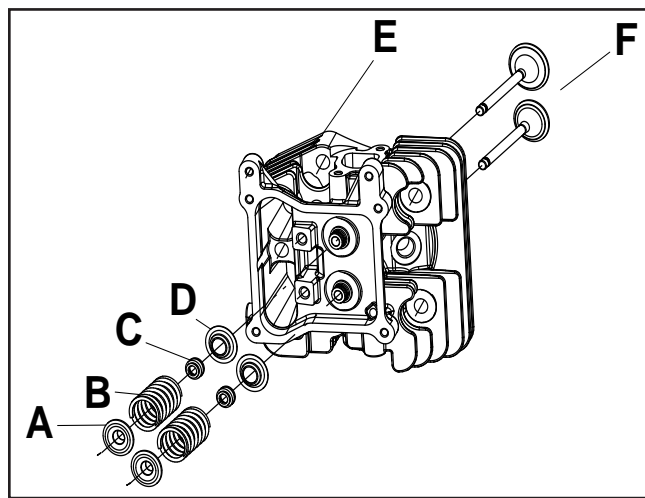

Figure 32
5. Remove the remaining valve system components from the head (E) (Figure 32):
- Spring retainers (A)
- Valve springs (B)
- Valve seals (C)
- Valve spring seat (D)
- Intake and exhaust valves (F)